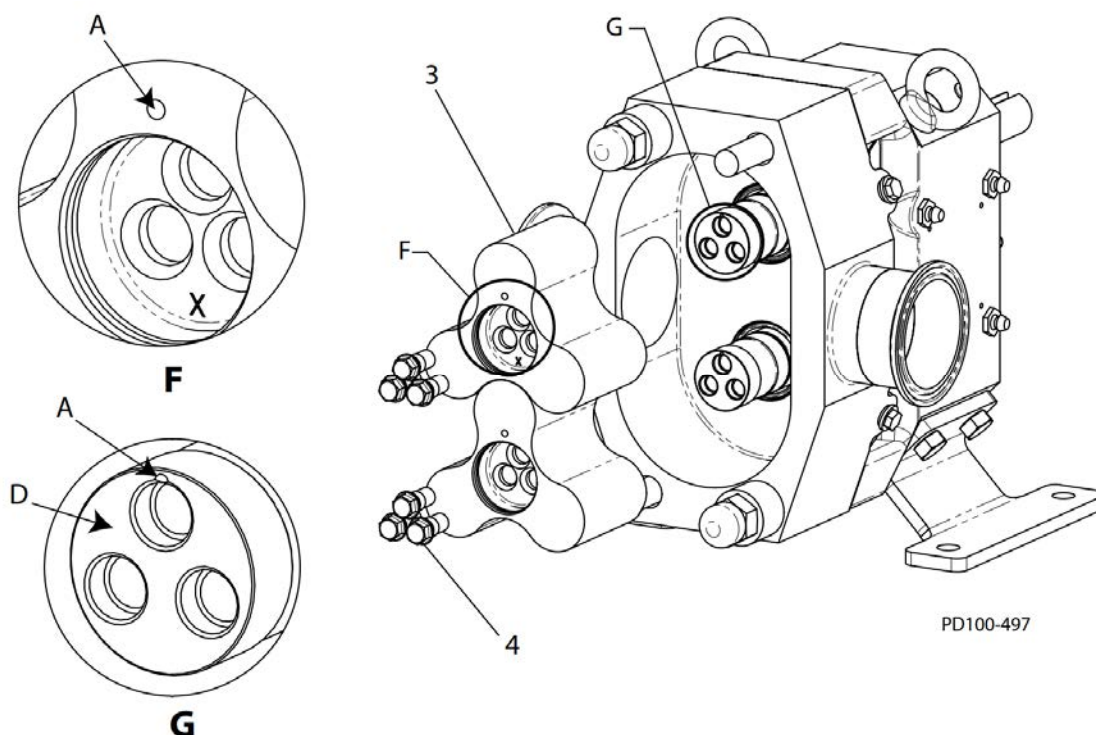

Fig. 56: Rotor installation
2. The face of the shaft must be free of raised edges or burrs (see Figure 56, Detail G, item D).
3. **Re-using rotors:** Apply a compatible lubricant to the O-rings and install the marked rotor onto the drive shaft and the unmarked rotor onto the short shaft, making note of the alignment reference mark on the shafts for rotor positioning. (See item A in Figure 56, Detail F and G.)
Installing new rotors: Apply a compatible lubricant to the O-rings and install the rotors onto the shafts, making note of the alignment reference mark on the shafts for rotor positioning. (See item A in Figure 56, Detail F and G.) Stamp an "X" approximately 3mm high in the face of the counterbore opposite the alignment reference mark. See Figure 56, Detail F; also see Figure 31 for a larger view.
4. Install one lug screw (Figure 56, item 4) into the hole nearest the reference mark in each rotor.